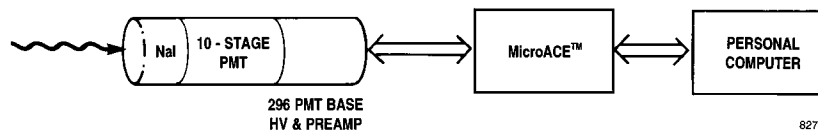

Fig. 4. Pulse-Height (Energy) Spectroscopy with a Nal(Tl) Scintillation Detector
- Nal(Tl) scintillation detector (Fig. 4).